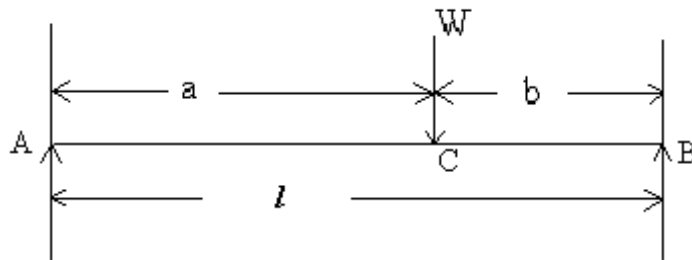

Figure 8
7. Find the central deflection of a simply supported beam shown in figure 8 by unit load method and loaded at a point distant 'a' from A and 'b' from B. [16]